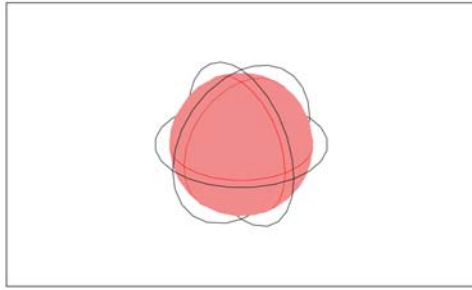

Figure 2-4: A sphere surrounded by a typical spherical PML region.
- *Spherical*—PMLs absorbing in the radial direction from a specified center point. It is available in 2D axisymmetry and 3D (Figure 2-4).